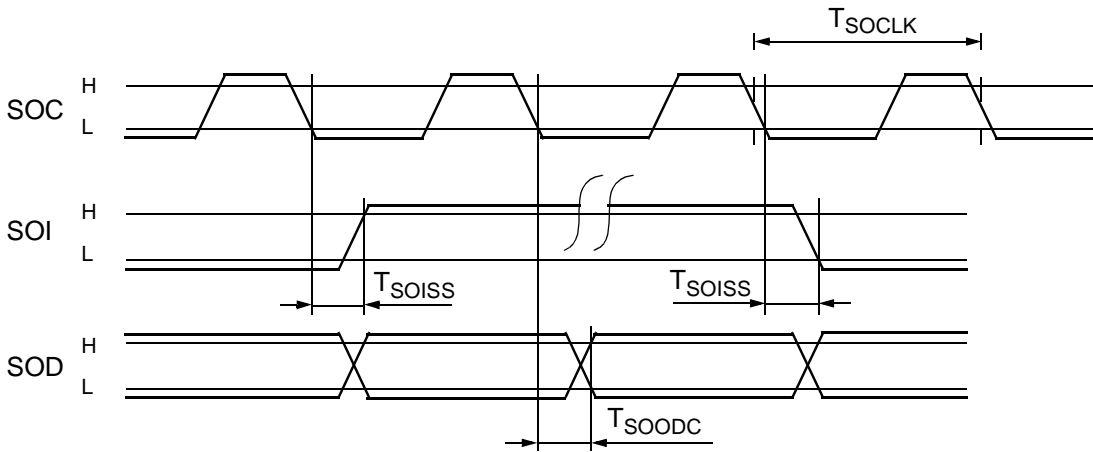

Fig. 4–23: Serial output interface timing.
Fig. 4–24: Sample timing of the SDO interface in 16 bit/sample mode. D0:346 settings are: Bit 14 = 0 (SOC not inverted), bit 11 = 1 (SOI delay), bit 5 = 0 (word strobe not inverted), bit 4 = 1 (16 bits/sample).
**Fig. 4–25:** Sample timing of the SDO interface in 32 bit/sample mode. D0:346 settings are: Bit 14 = 0 (SOC not inverted), bit 11 = 0 (no SOI delay), bit 5 = 1 (word strobe inverted), bit 4 = 0 (32 bits/sample).